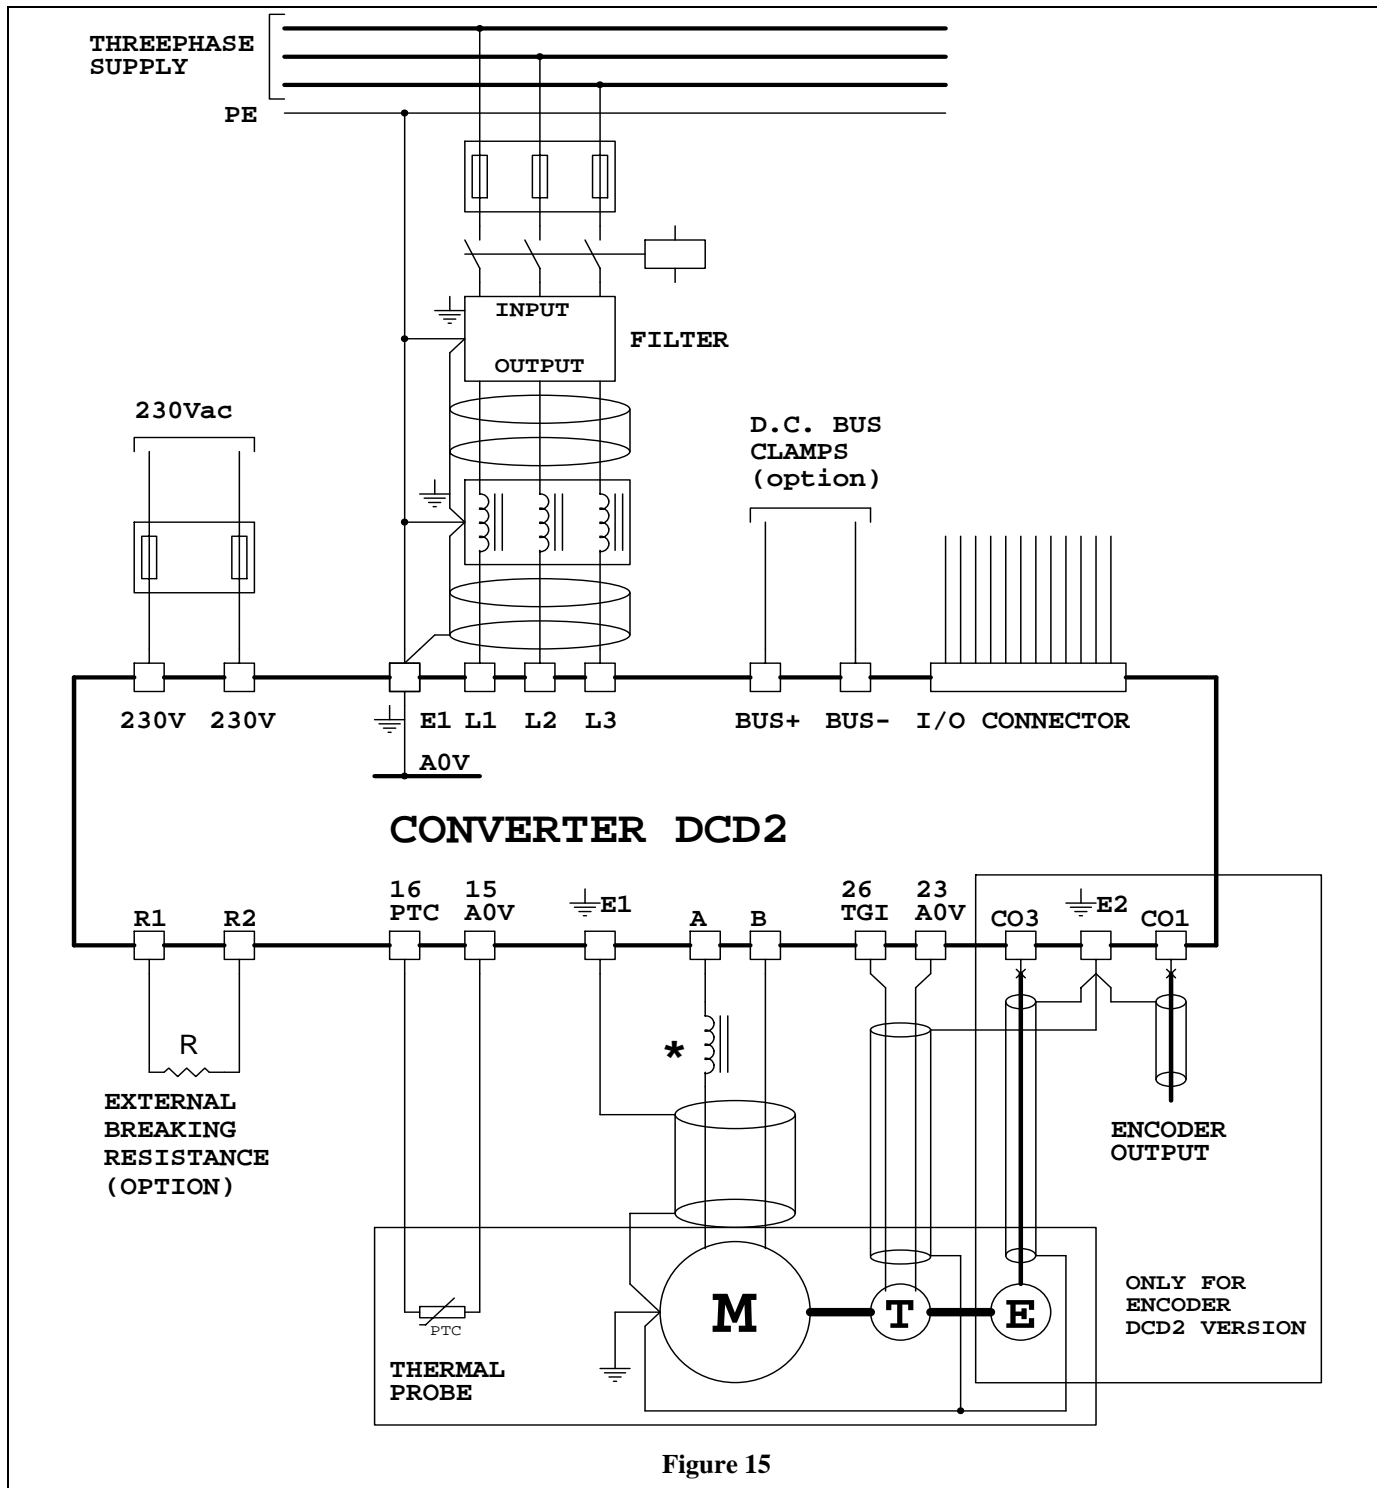

Figure 15
- For the sizing of the reported components in the Figure 15 to see **Chart 1** and **Chart 2** on page 14.
- To connect the thermal probe in the suitable way in the Figure 15 only if such signal is not available on the connector of the transducer.
To follow the connections of the motor and the tachogenerator ("T") as indicated in the Figure 15 on page 35.